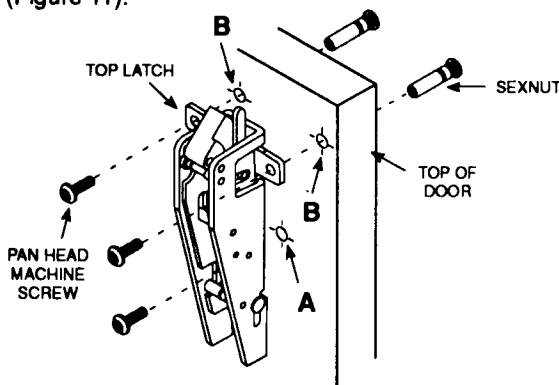

Figure 11
- A. Install top latch using two pan head machine screws and two sexnuts in holes marked B and one pan head machine screw or tapping screw in hole marked A (Figure 11).